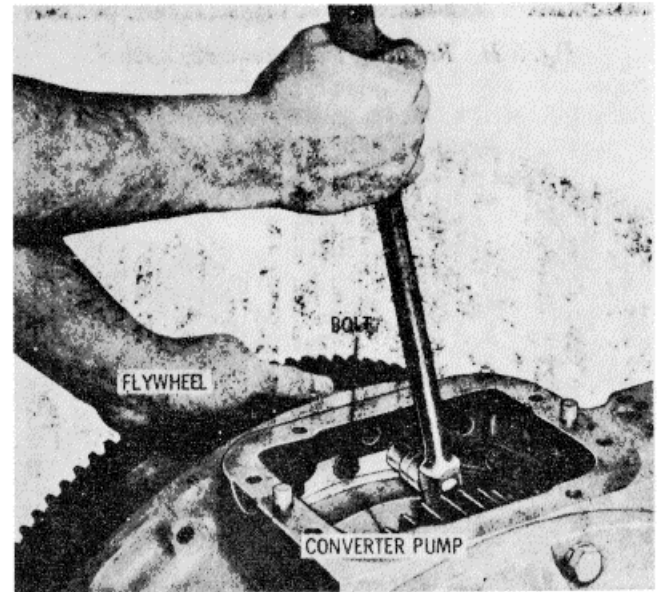

Figure 15-45. Removing Flywheel Bolts
2. Position the converter housing and attached parts vertically. If gasket 17 (A, Foldout 3) is present, remove and discard it. Remove thirty-six bolts (accessible through top PTO opening) and flat washers which secure the flywheel to the converter pump (Figure 15-45).